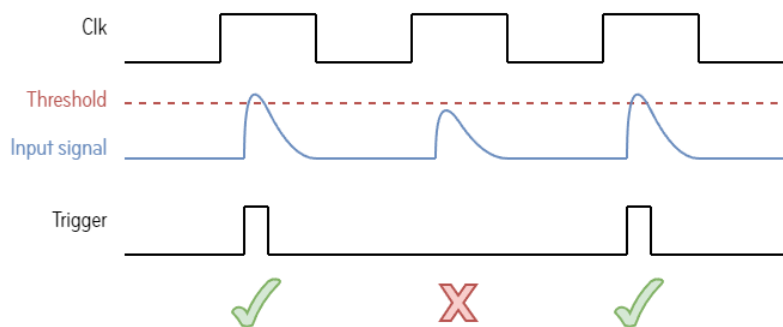

Figure 11 - S-curves acquisition chronogram
When the threshold is way below the signal amplitude, the trigger efficiency will be 100%. With a threshold way over the signal, trigger efficiency drops to 0%. On Figure 11, the threshold is set near the tip of the signal so the ASIC will have a
~50% chance of triggering depending on the noise. Following the Figure 11, the ASIC would trigger 2 times in 3 acquisition windows, resulting with a 67 % trigger efficiency.
To plot the S-curves on a signal checking the "use in_test" checkbox ② the user will need to inject signal through the "in_test" connector. The injected signal must be synchronized with the clock signal available on the FPGA I/Os (default I00, see FPGA config. tab) to send the signal in each acquisition window as shown on Figure 11.